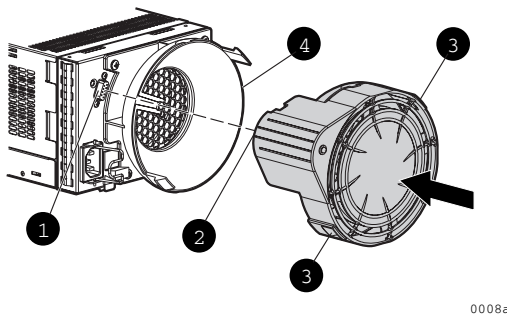

Figure 3 Installing a blower
1. Align the blower guide post (2, Figure 3) with the mounting hole next to the power supply connector (1).
2. Slide the blower onto the power supply (4) until the mounting tabs (3) snap into place.